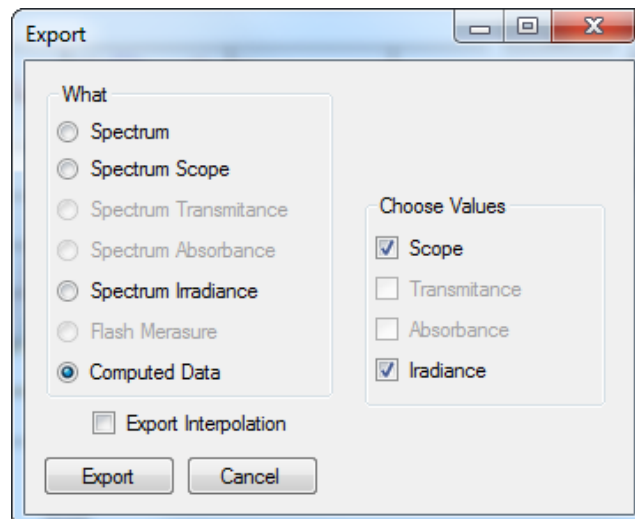

Fig. 36 Export of computed values.
**Computed Data** – computed numeric values for Scope and Irradiance are exported for all measurements. The user can choose if only Scope numeric values or Irradiance numeric values are exported. For irradiance values, numeric data for Photon flux density and PAR in  $\mu\text{mol}/\text{m}^2/\text{s}$  units, irradiance in  $\mu\text{W}/\text{cm}^2$  units and illuminance in LUX units are exported (Fig. 36).